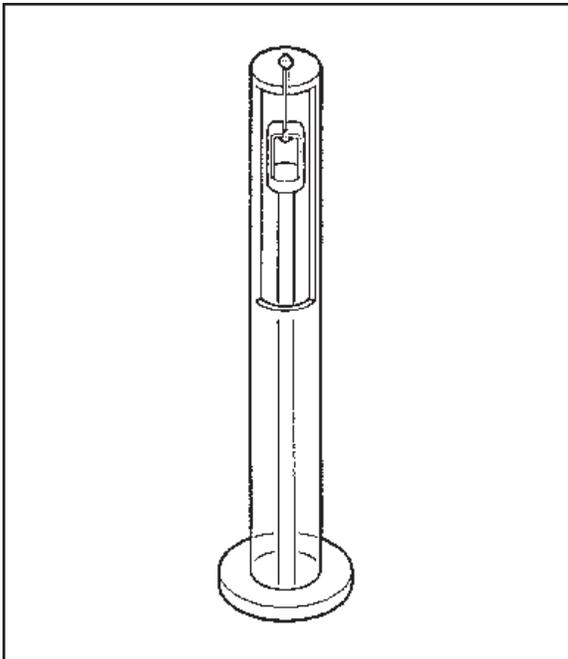

Figure 4.4
8. Move the furnace back into position and lower it. See Figures 4.4 and 4.7 for the correct probe setup with fiber and film samples.
7. Position the second ball below the slot in the film/fiber probe so that the fiber is suspended between the two balls, as shown in Figure 4.4.